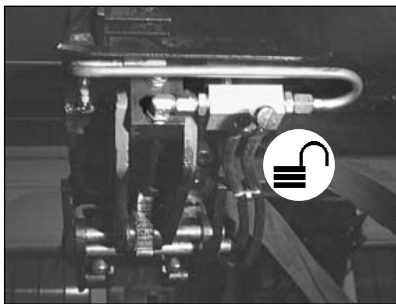

fig. 35
- Open the tap of the valve placed on the rack ram (fig. 35).